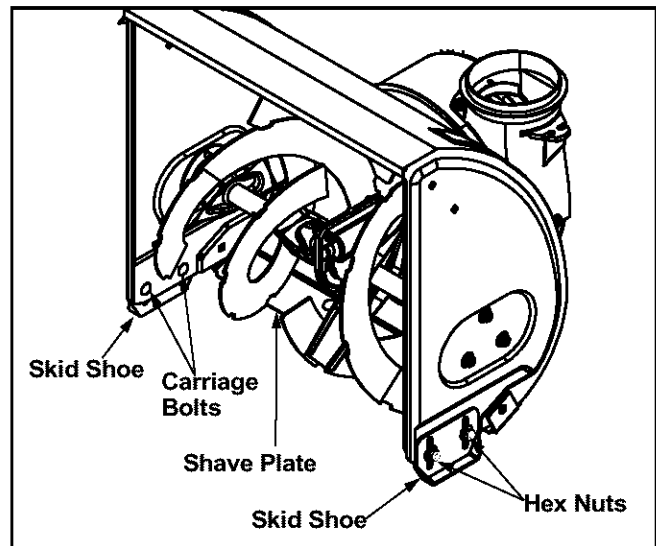

Figure 21
- To remove skid shoes, remove the four carriage bolts, cupped washers and hex nuts which attach them to the snow thrower. Reassemble new skid shoes with the four carriage bolts, cupped washers (cupped side goes against skid shoes) and hex nuts. See Figure 21.
- To remove shave plate, remove the carriage bolts, cupped washers and hex nuts which attach it to the snow thrower housing. Reassemble new shave plate, making sure heads of carriage bolts are to the inside of housing. Tighten securely. See Figure 21.